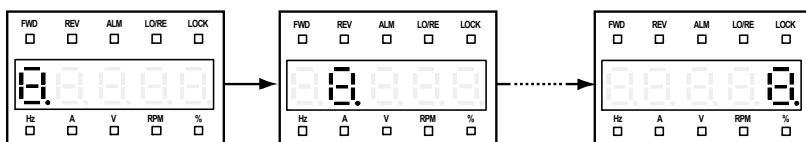

Figure 5-13 Starting display of the display panel self-checking
1. In stop status, the self-checking function can be enabled by pressing **▶▶** key and **◀◀** key simultaneously for 2—3 seconds, the 5 LED will cyclically display “8” from left to right in turn for three times which is as shown in Figure 5-13.